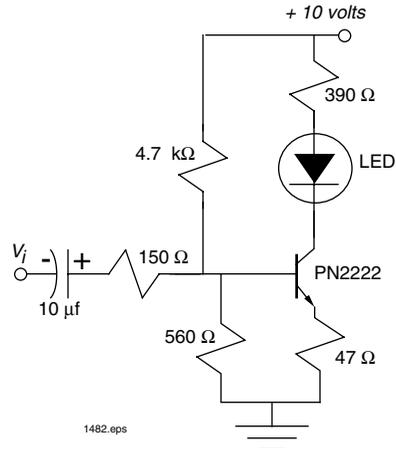

Figure 8.6 Analog fiber optic transmitter.
Although most fiber optics systems are digital in format, there are a few analog applications. Designing an LED driver for an analog fiber optics system is comparable to designing an electronic Class A amplifier. It must have adequate bandwidth, good linearity and not clip for the range of input signals. A circuit suitable for driving an LED in a color video application is shown in **Figure 8.6**. (Color video requires about 8 MHz of bandwidth and has a standard 1-volt peak-to-peak signal level.)
1. Replace the LED drive circuit on your breadboard with the one shown in **Figure 8.6**.
Table 8.4 Measured data for the analog LED drive circuit shown in **Figure 8.6**.
Assuming h_{fe} is 100 for the PN2222, calculate the DC LED current drawn for the circuit shown in **Figure 8.6** with no input signal.
What is the maximum linear voltage swing of the circuit shown in **Figure 8.6**? (HINT: Determine the answer from empirical data.)
What is the 3 dB bandwidth of the circuit shown in **Figure 8.6**?